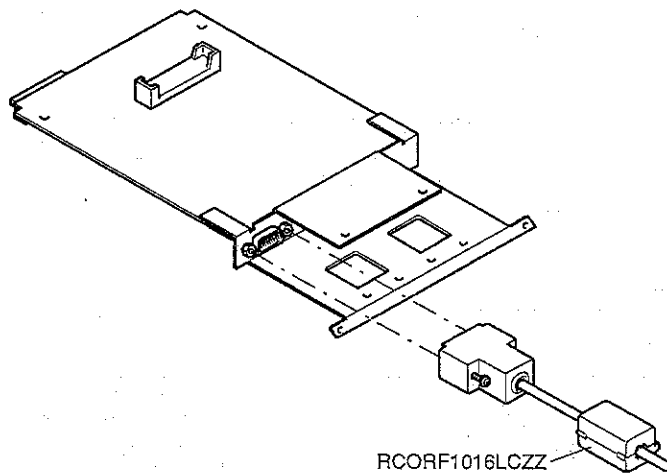

Fig. 1
- Be sure to install the core (RCORF1016LCZZ) on the inline cable. (Fig. 1)